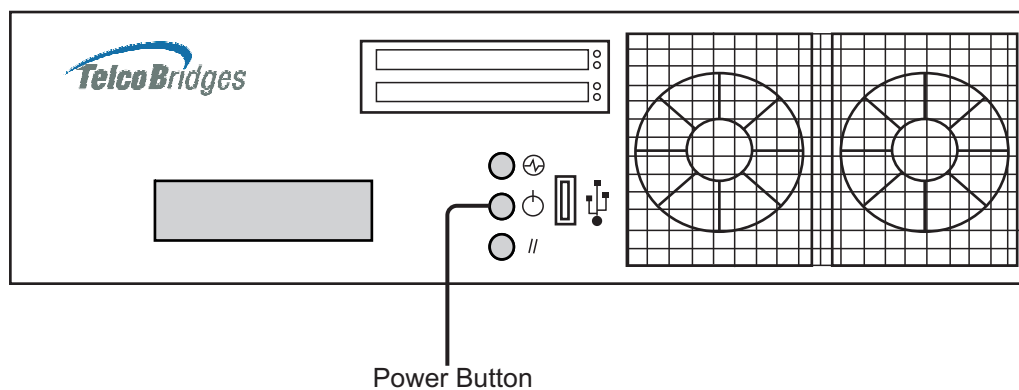

Figure 2.9 Power Button
2. Press the power button at the front of the TMG5800. See figure 2.9 on page 19.